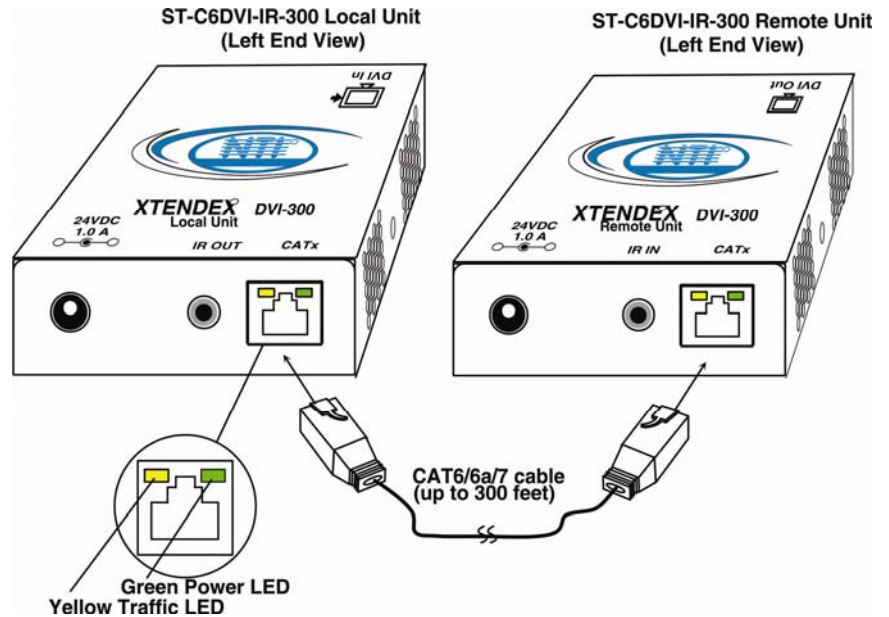

Figure 3- Connect CATx cable
Connect the CATx cable between the "CATx" ports on the Local and Remote Unit. (See **Figure 3**.) When properly inserted the cable ends should snap into place.
2. Connect an AC adapter power connector to the 24VDC port on the Remote Unit or the Local Unit. Plug the AC adapter into a power outlet. The green LED on the RJ45 connector of both the Remote and Local Units should illuminate, indicating that a proper power connection has been made to them. (See **Figure 3**) The yellow LED on both the Local and Remote Units should illuminate indicating there is communication between them.